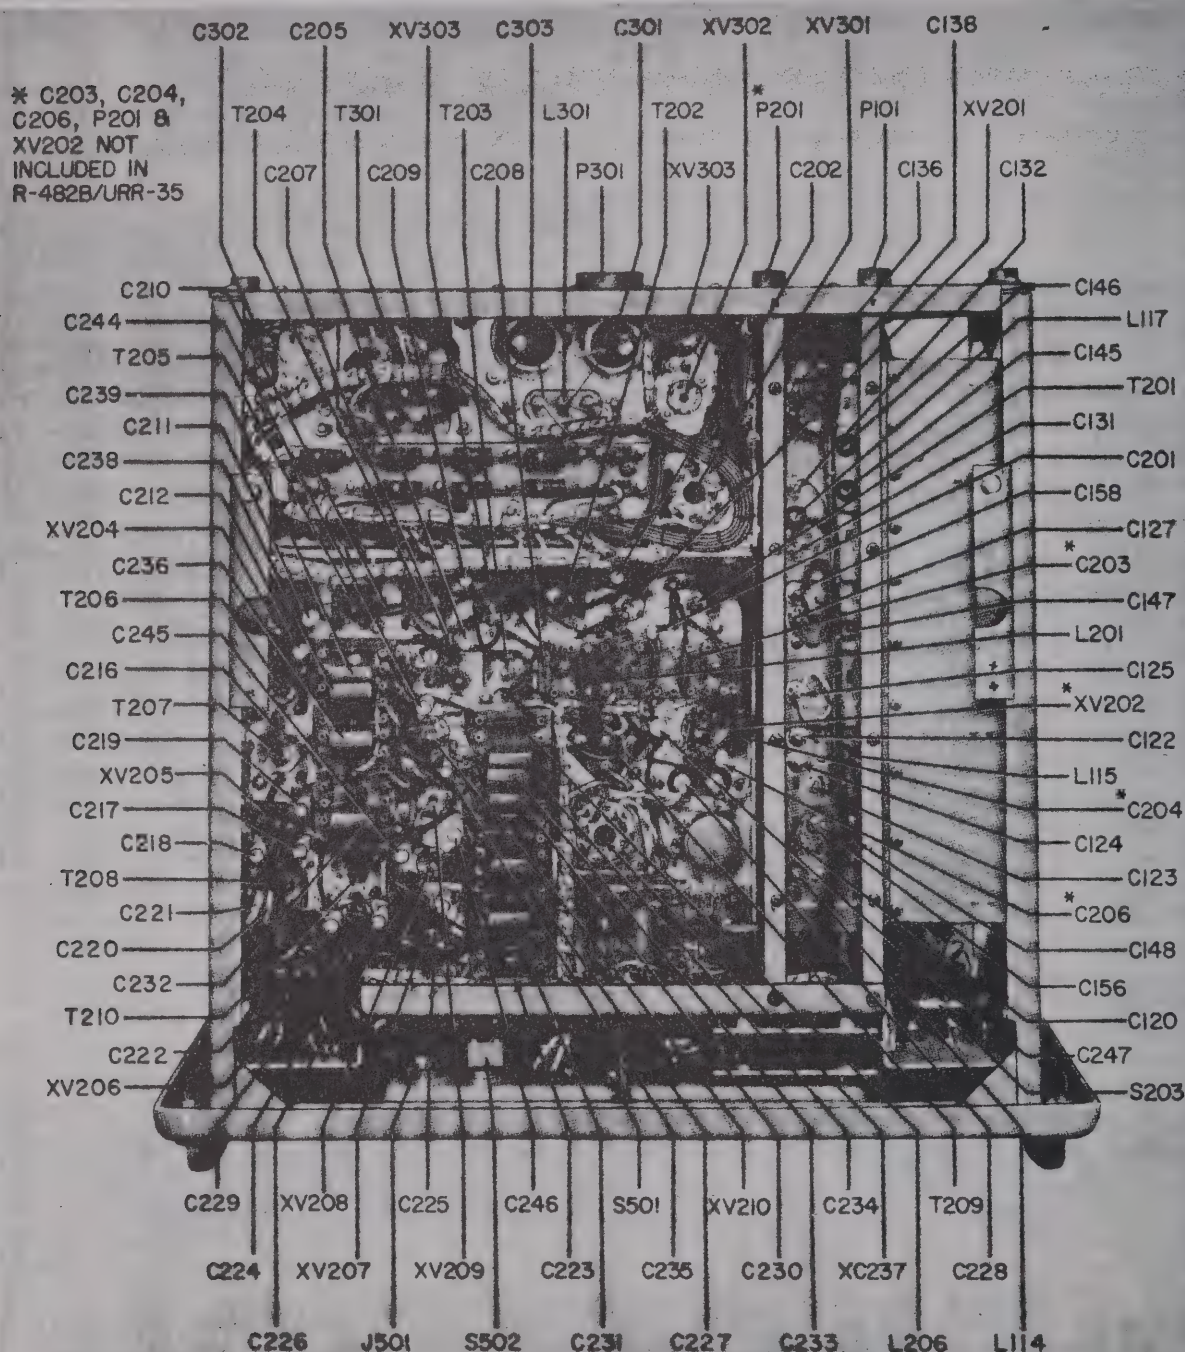

Figure 7-15. Radio Receiver R-482/URR-35, Bottom View—Identification of All Components Except Resistors and Terminal Boards
(1) Set up, near the receiver, a heterodyne frequency meter such as a Navy Model LM or LR series, which will cover the range of 10–18 megacycles, or the range 20–35 megacycles, and couple it, through a d-c blocking capacitor, to capacitor C123, located on the oscillator side of the preselector; see figure 7-15.
(2) Set the tuning dial of the receiver to 232 megacycles, throw the CRYSTAL-MANUAL switch to MANUAL, and install any crystal.
of choke L301; see figure 7-15.
(1) Unsolder the wiring from the terminals of T301; see figure 7-15. Identify each wire in some manner if there is any likelihood that the performed arrangement of these wires will be disturbed before connections are restored.
(2) Remove the nuts from the four transformer-mounting studs.
(3) Unfasten the rear panel by removing: